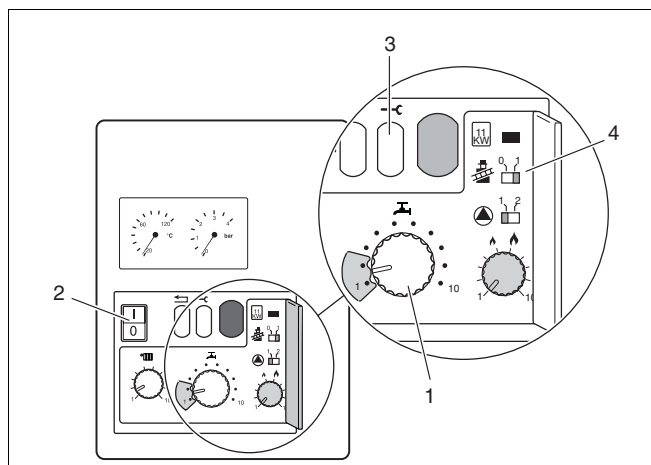

Fig. 35 Mains switch, service button and chimney-sweep switch
- Turn the chimney-sweep switch (fig. 35, item 4) to position "1".
- Turn the power switch (fig. 35, item 2) to position "I". The burner should ignite after about 30 seconds.
- Turn mains power switch (fig. 35, item 2) and chimney-sweep switch (fig. 35, item 4) to "0".
- If the burner has fired after approx. 30 seconds, keep the service button (fig. 35, item 3) pressed until "Y" appears on the display.
- Turn the hot-water temperature controller (fig. 35, item 1) to "1".